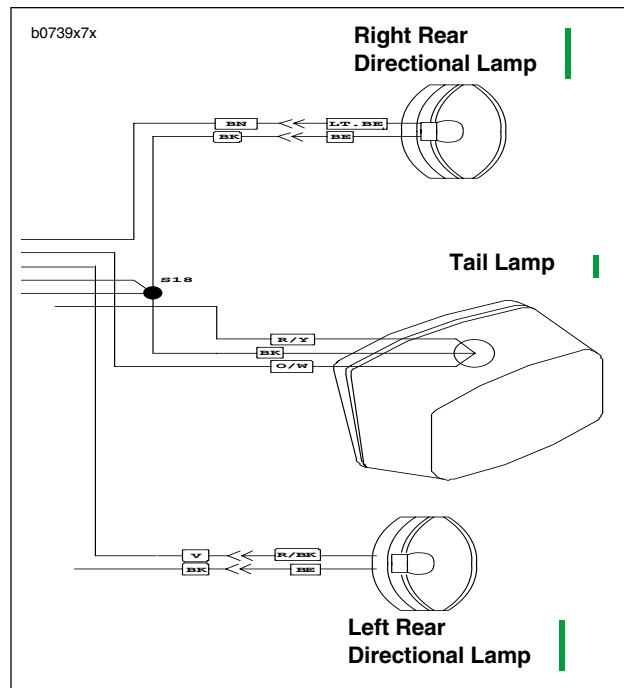

Figure 7-66. Rear Turn Signal Connections
3. See Figure 7-66. Disconnect bullet connectors on turn signal wires.
- Attach bullet connectors on turn signal wires as shown in Figure 7-66.